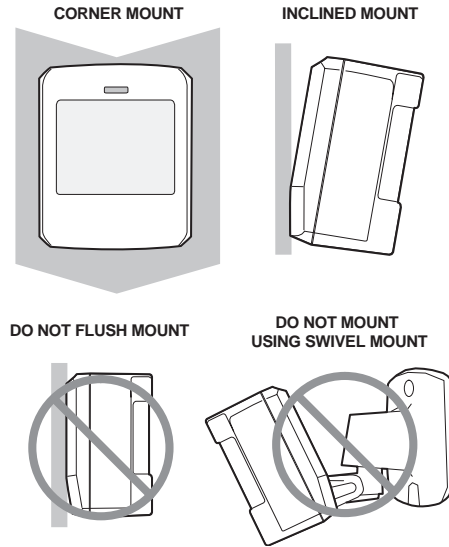

Figure 4. Wall mount options
2. Punch out two of the bottom four mounting holes. See Figure 4 for wall mount options. Use the lower-side holes for corner mounting, or the lower-middle holes for surface mounting.